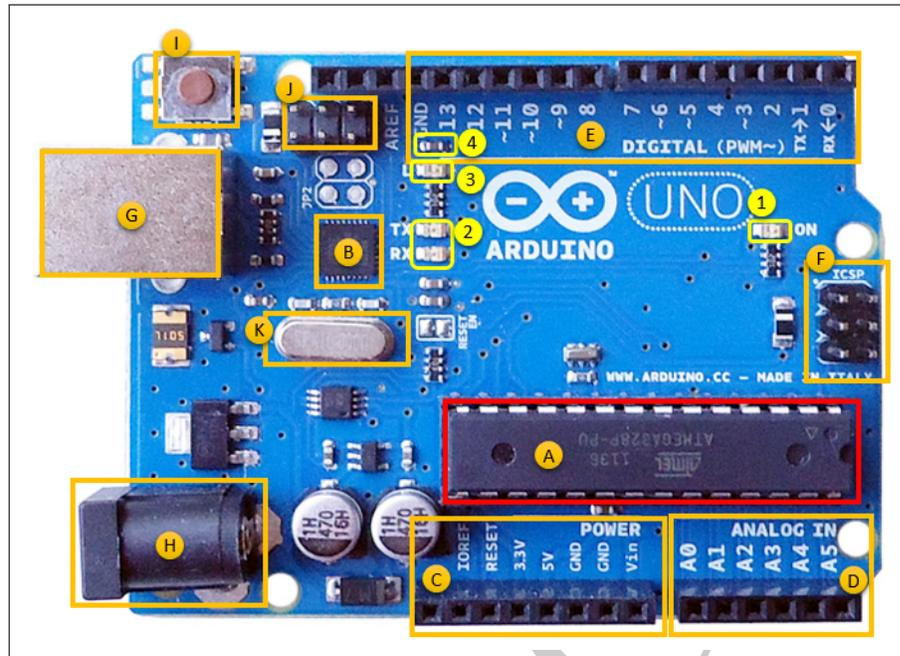

Figure 1.1: Arduino Microcontroller.
**Why ARDUINO ??** The choice of **Arduino** (Fig. 1.1) was essentially due to